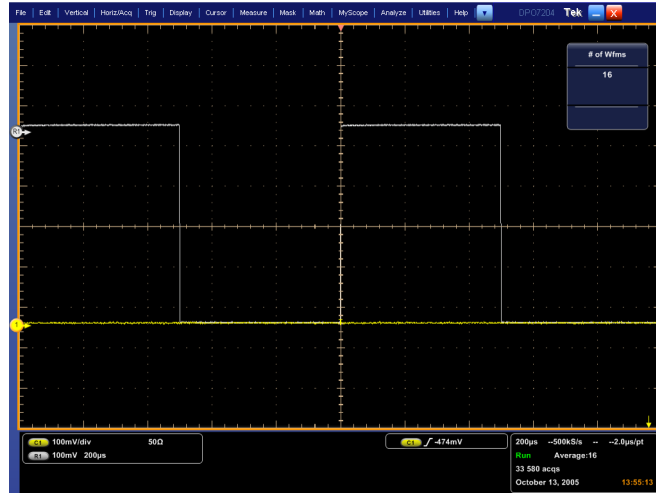

Figure 35: Measurement of fast edge amplitude
- d.** Press the **X** (close) button to remove the menus from the display. (See Figure 35: Measurement of fast edge amplitude on page 152.)